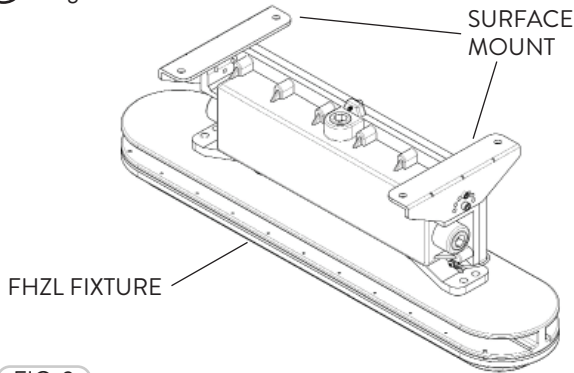

FIG. 9
- 1 The Optional Surface Mount can be used for all the FHZL fixtures (Fig. 9).